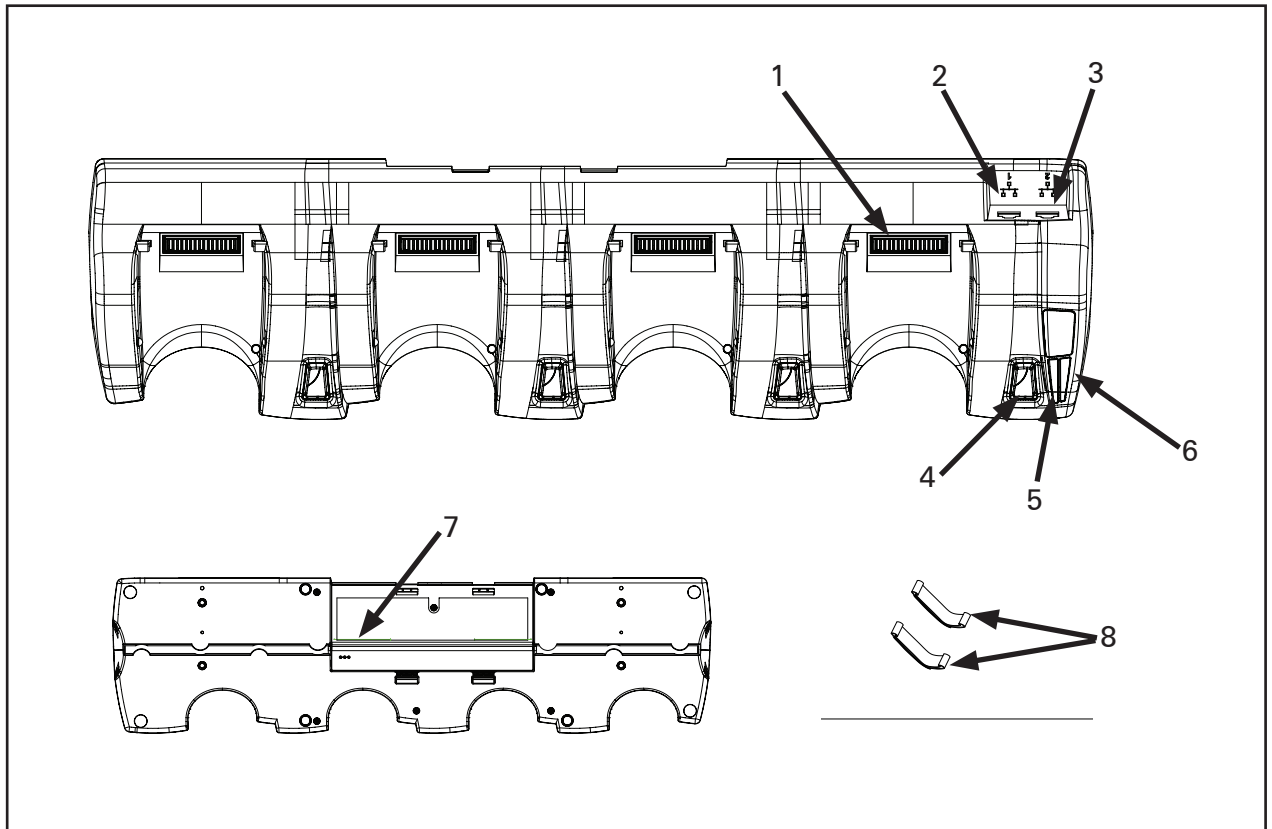

Figure 2: QLnEC4
2. Plug the power adaptor into the DC jack at the bottom of the cradle (Figure 2 #7).
4. Plug the Ethernet cable into the Ethernet Jack 1 (Figure 2 #2) at the rear of the cradle. Make sure that the AC power adapter cable routing does not invite damage to the cable. To avoid unintentional contact between the wire and any sharp edges, provide the cable with proper bushings and clamping where it passes through openings.
5. Connect up to four (4) cradles in series by using the connection at Ethernet Jack 2 (Figure 2 #3).